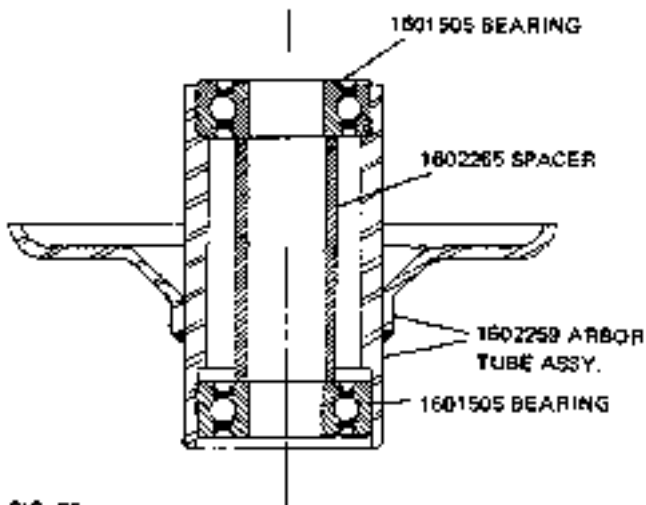

FIG. 55
**Mower Arbor Tube Assembly (Fig. 55)**